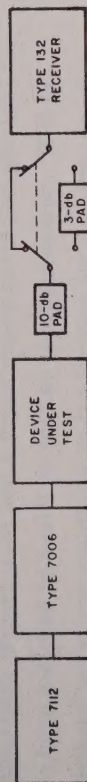

FIGURE 1-2. EQUIPMENT SETUP BLOCK DIAGRAM FOR TESTING
1. Set up the equipment as shown in Figure 1-2.